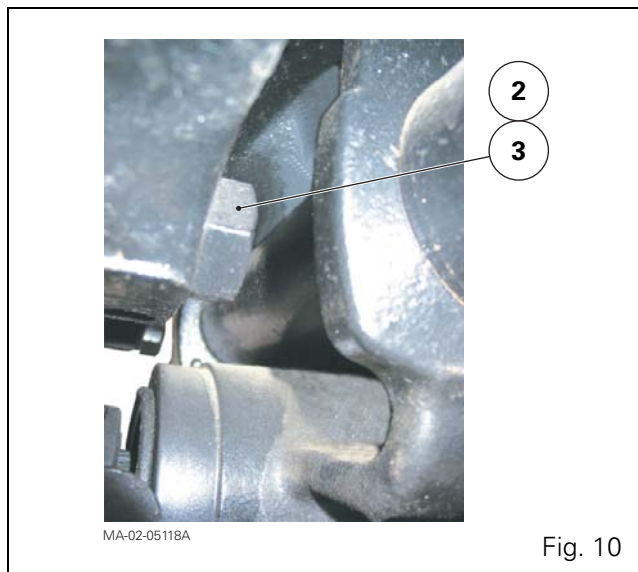

Fig. 10
The lower screws M20x135 (2) and M24x165 (3), attaching the front frame to the lower engine housing, are not accessible on 4 WD tractors (Fig. 10). These screws are facing the drive pinion carrier, which also serves as a steering ram support.